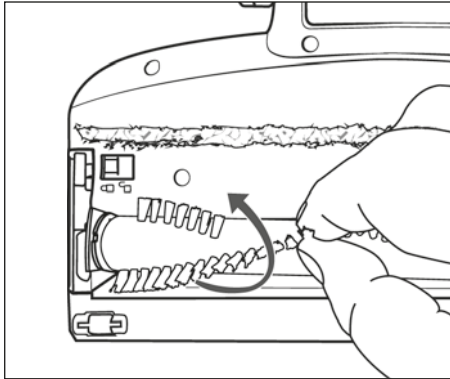

Fig. 27
- 3) Pull the rotary brush 21 out of the floor brush 22 by the bristles. Turn the rotary brush 21 slightly to make it easier to remove (see Fig. 27).